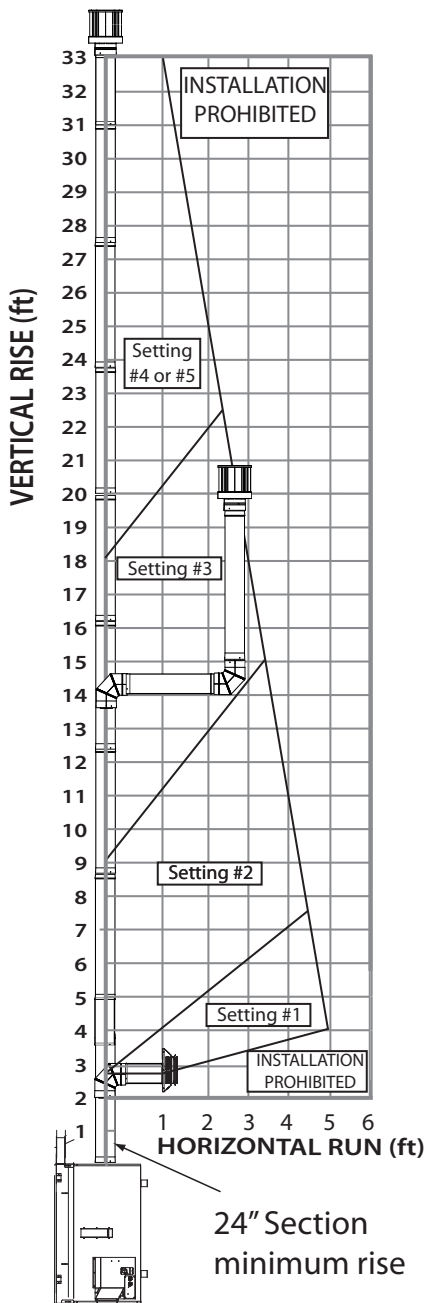
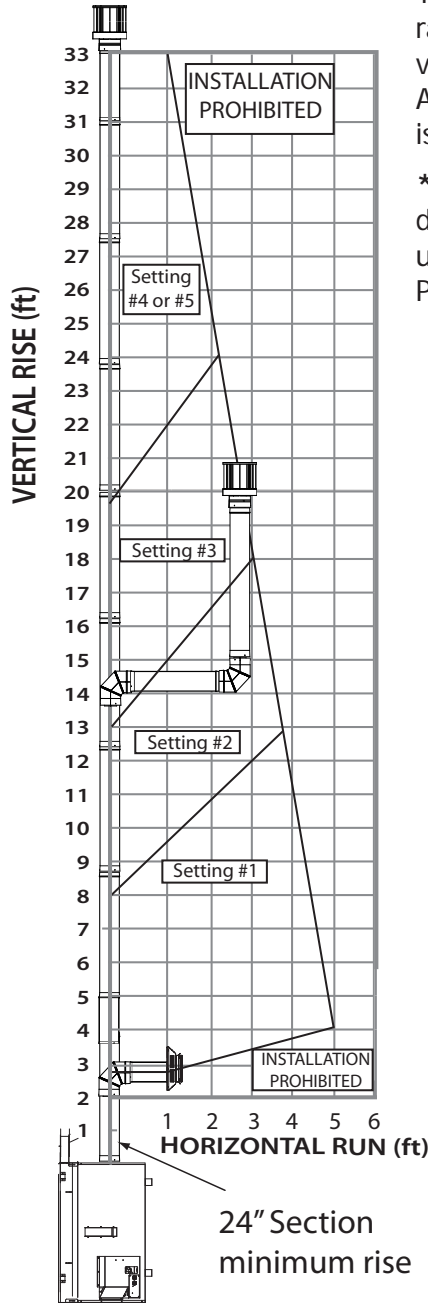

Figure 66: 8" x 11" NG Vent Graph
Figure 67: 8" x 11" LP Vent Graph
***Note:** Be sure to use the proper diagram depending on if your unit uses Natural Gas (Figure 66) or Propane (Figure 67).